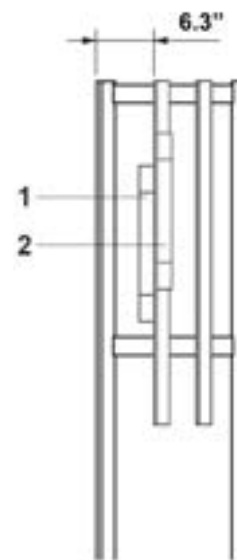

Figure 6.13
Once the masts are assembled, install the end-of-travel pad (1) and the overtravel pad (2), as shown in images below. In figure 6.13, the upward end-of-travel pad (1) must be positioned and adjusted in such a way for the cabin to stop at the desired height; position the overtravel pad (2) at about 2 in higher. Perform various maneuvers to verify the correct operation of the stop.